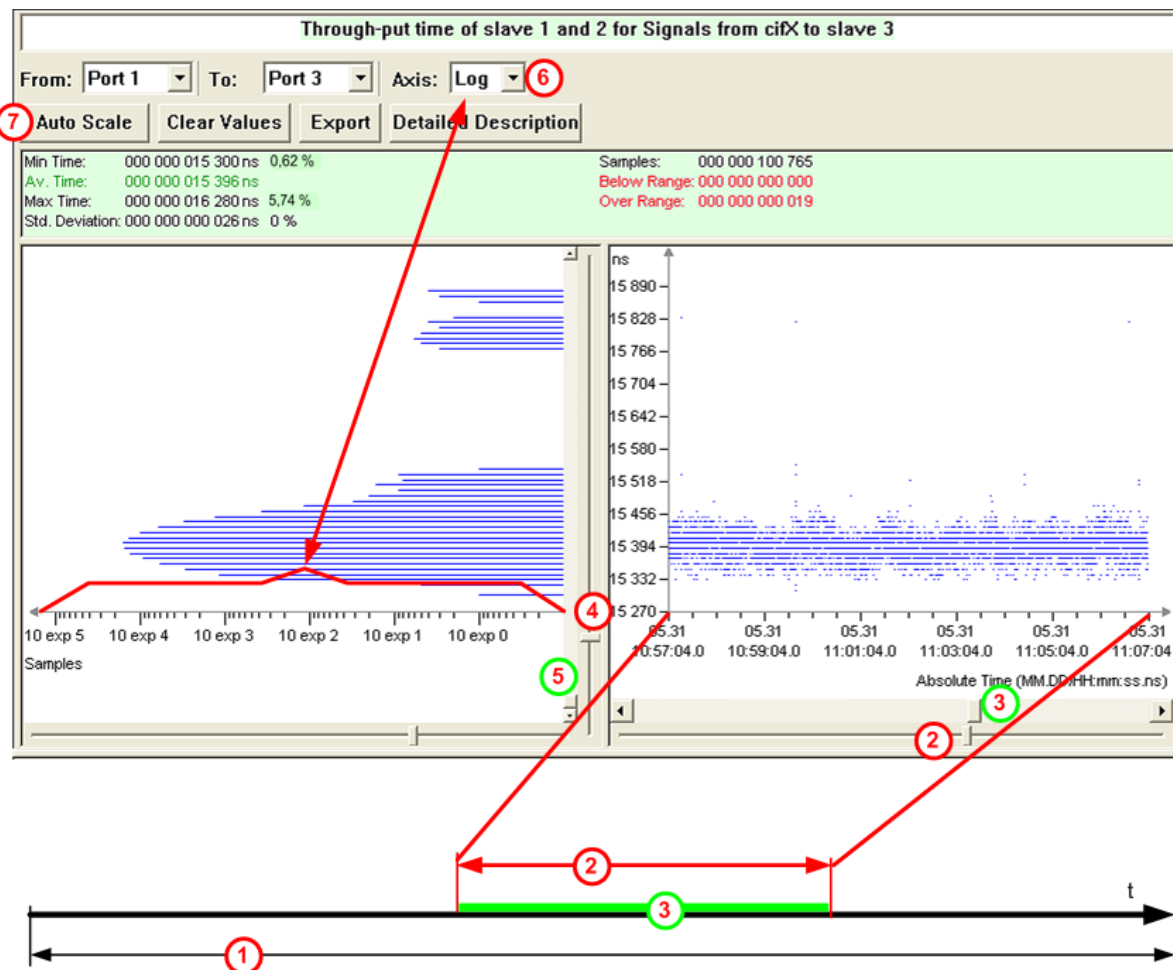

Figure 82: Timing Analysis, change Scaling
The time bar ① in Figure 82 displays the entire measuring time period.
All three axes in Figure 82 can be adjusted with **Auto Scale** ⑦ in such a manner, that all measuring events are located within the display area.